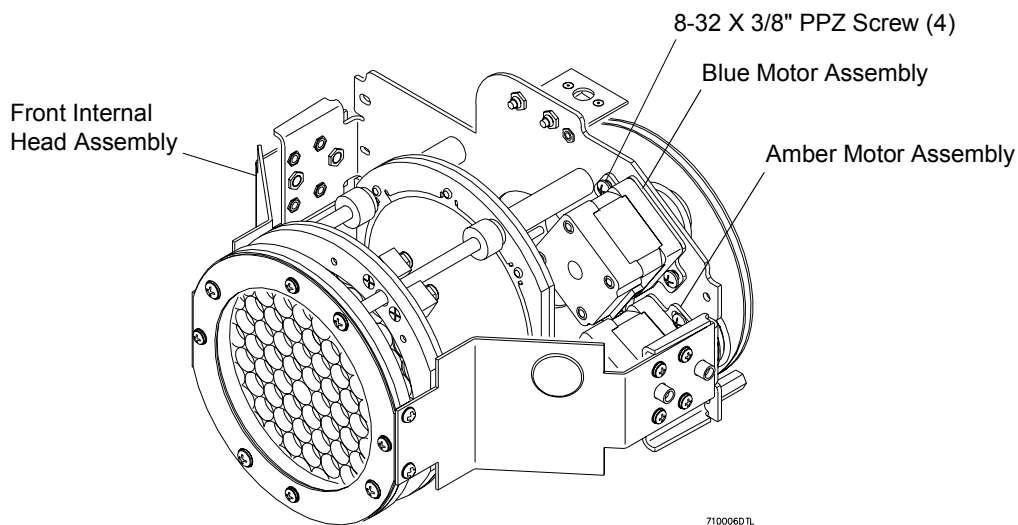

Figure 2-11: Loosening Tension on Timing Belts
- Step 3. At front of bulkhead, loosen four 8-32 X 3/8" PPZ screws to loosen tension on blue and amber motor assembly timing belts (**Figure 2-11**).